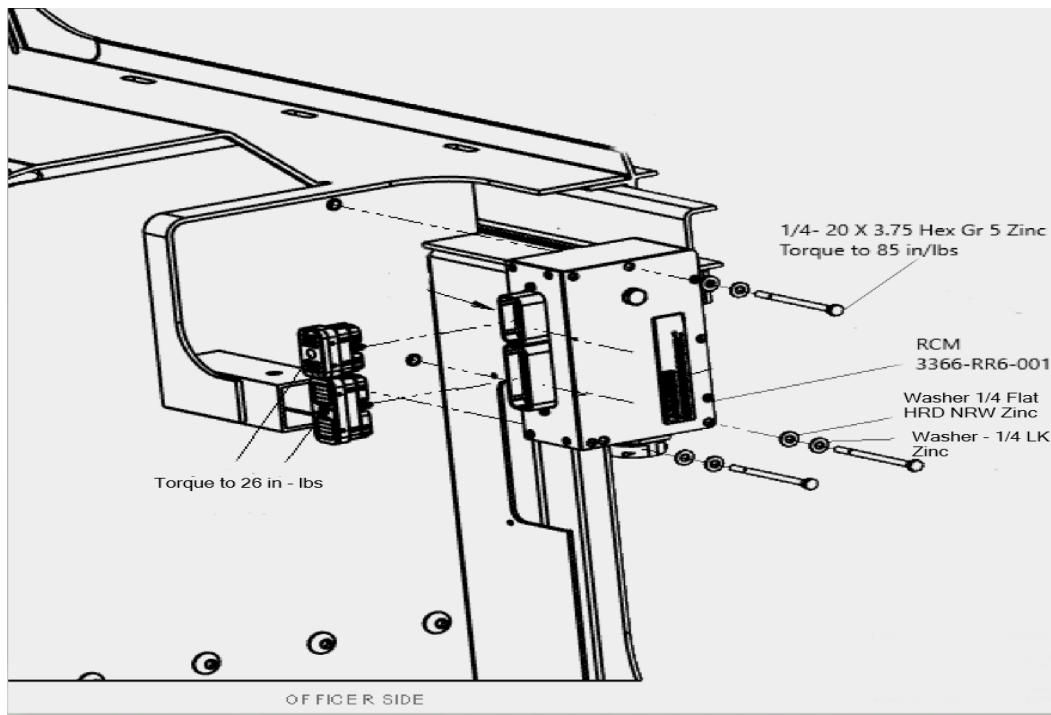

Figure 5.1
7. Mount new RCM to side of engine tunnel using the 3 – ¼ -20 X 3.75 bolts and the washers as shown in *Figure 5.1*. Torque 3 bolts to 85 in-lbs.